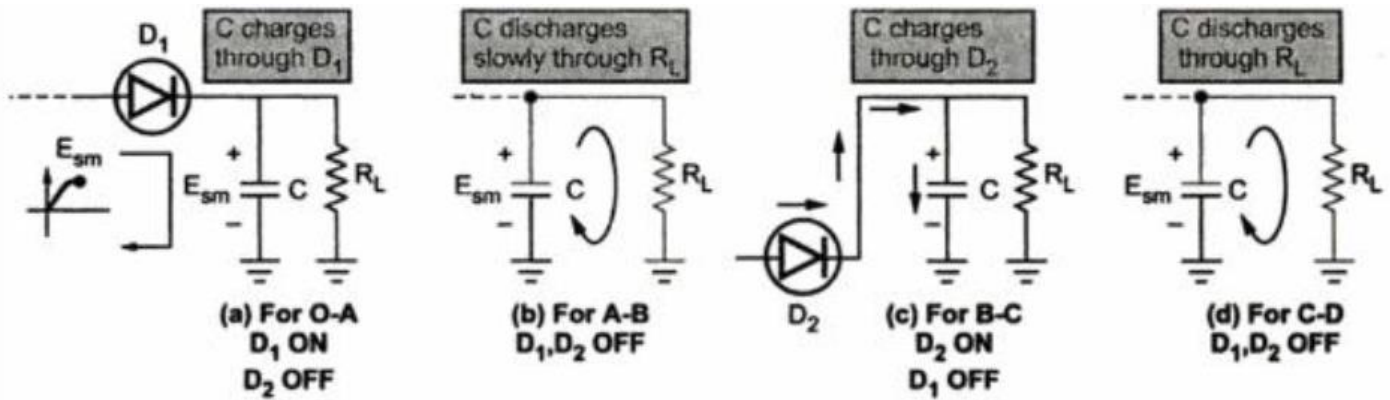

Fig. 2.11 Operation of Capacitor input filter with Full wave rectifier
- The diode currents are shown shaded in the Fig. 2.11.